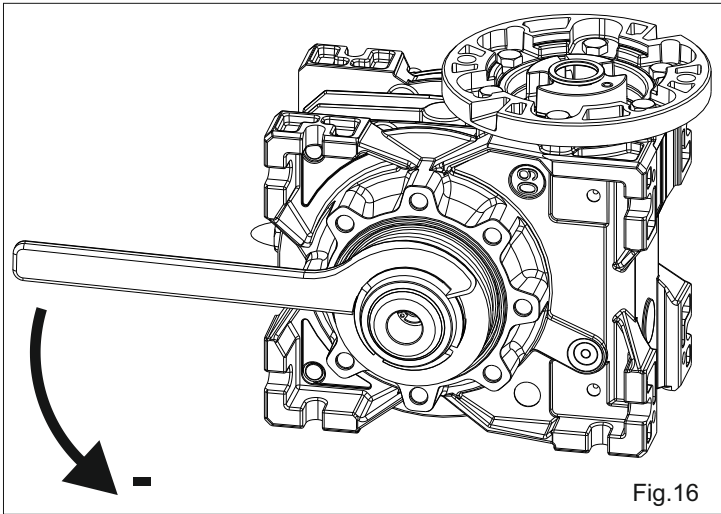

Fig. 16
- To reduce torque, turn the key **counterclockwise** (Fig. 16).